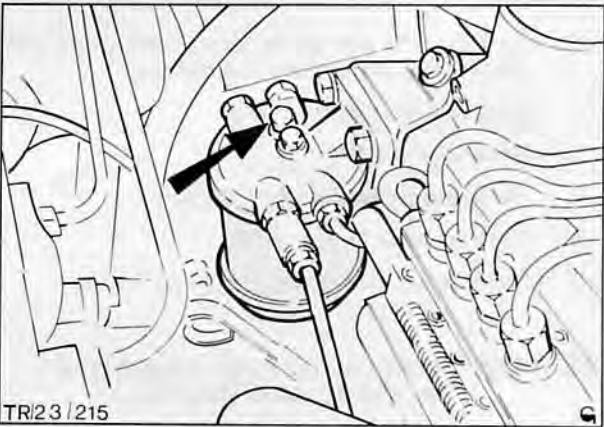

Fig. 67. Fuel filter bleed bolt
6. Bleed fuel system at the filter, Fig. 67. Detailed in Operation 23 142.
9. Bleed fuel system at the filter, Fig. 67.